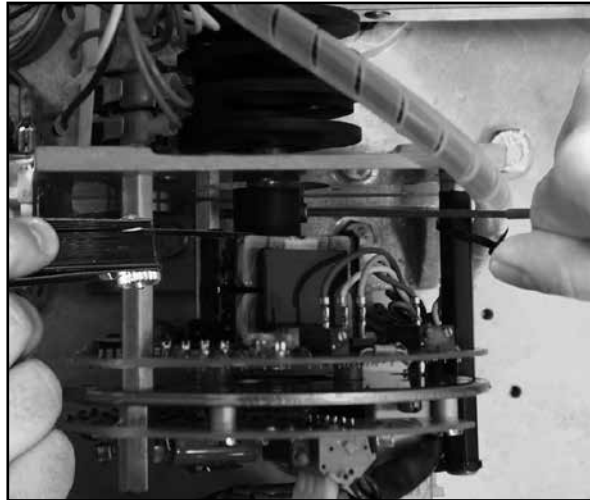

Figure 8
8. Loosen the rotor clamp and reset its position (use the thickness gauge; see Figure 8, page 26) to achieve the desired value of maximum output signal. For example, 20 mA. NOTE: Rotor adjustment moves the entire span up or down. Also observe the meter as you rotate the rotor to ensure that the signal is changing in the proper direction.